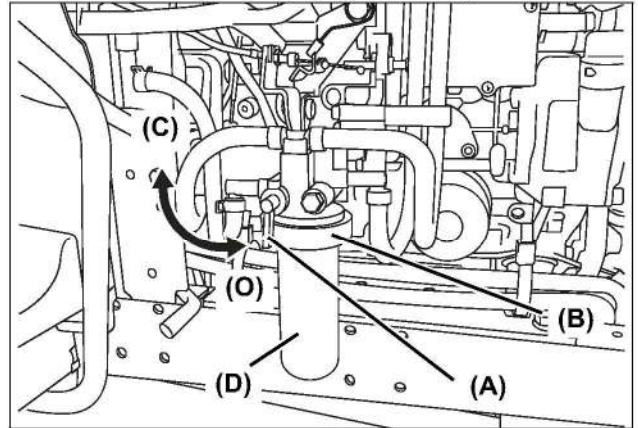

Fig 14-36
5. Turn the fuel shut-off valve (Fig 14-36, A) to the OFF (closed) position (Fig 14-36, C).
- (A) Fuel shut-off valve
- (B) Sediment bowl locking collar
- (C) OFF (closed) position
- (D) Sediment Bowl
6. Turn the sediment bowl locking collar (Fig 14-36, B) counterclockwise to unlock the sediment bowl (Fig 14-36, D).